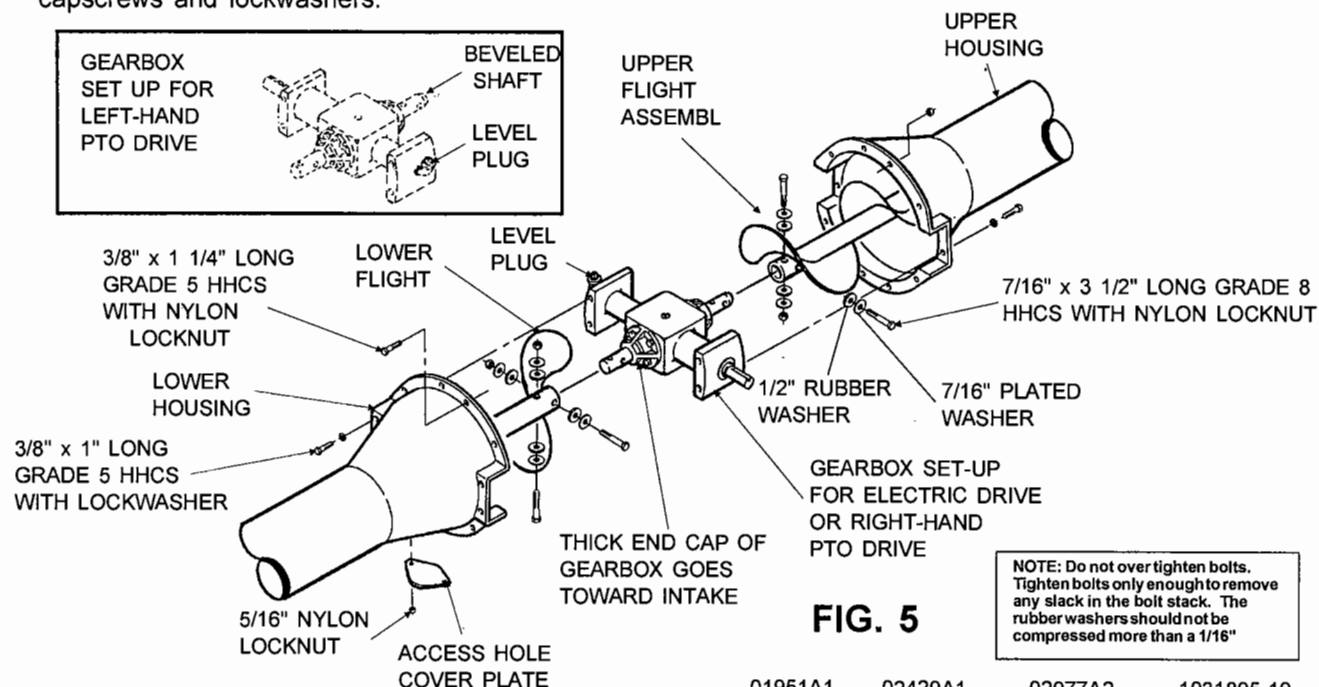

FIG. 5
NOTE: If the unit is to be PTO driven, the drive can be assembled on either the right or left side of the auger. Fig. A on page 10 shows a PTO drive installed on the right-hand side. The gearbox is shipped ready for right hand installation. See Fig. 5. To convert it for left-hand installation, rotate the gearbox filler elbow 180° (so it will be pointing up after the gearbox is installed). See inset, Fig 5.
NOTE: If the unit is to be motor driven, the gearbox is ready to assemble as shown in Fig. 5. and must not be converted.
4. Connect the upper gearbox shaft to the upper flight assembly using two 7/16" x 3 1/2" long (grade 8) hex head capscrews, four 1/2" rubber washers, four 7/16" washers and two locknuts. Tighten the locknuts only enough to slightly compress the 1/2" x 1/4" thick rubber washers. **DO NOT** compress the washers more than 1/16" Fig. 5. NOTE: Observe the gearbox end caps where shafts will connect to flight. The thicker end cap must face intake end.
6. Connect the lower flight to the gearbox with two 7/16" x 3 1/2" long (grade 8) hex head capscrews, four 1/2" rubber washers, four 1/2" washers and two locknuts. See Fig. 5 and 6.
7. Bolt the lower drive housing to the gearbox with four 3/8" x 1" long (grade 5) hex head capscrews and lockwashers. See Fig. 5 on previous page. When joining the drive housings, be careful to align the flight tail stub with the bronze bearing located on the intake guard.